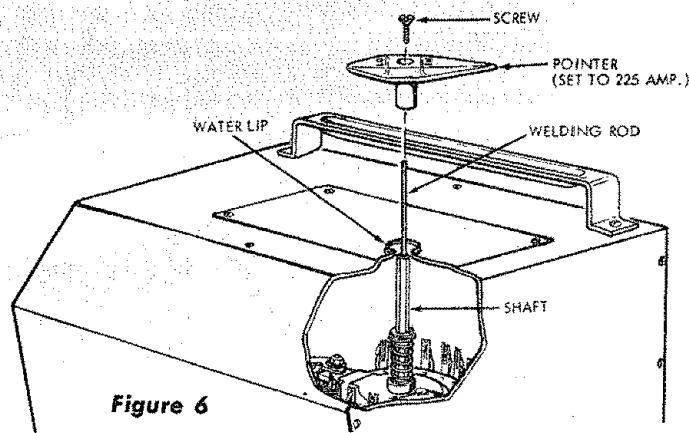

Figure 6
2. Remove screw securing pointer to shaft (see Fig. 6).